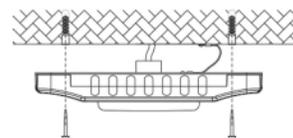

Figure 3
4. Mount the fixture on the ceiling by supplied screws (Figure 3).